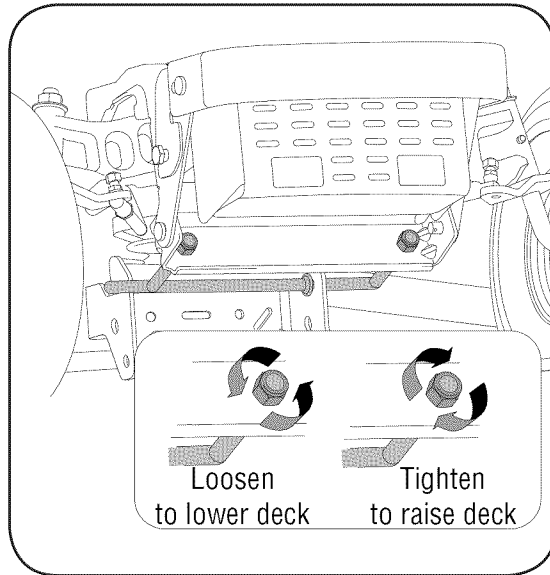

Figure 14
4. Locate the two lock nuts on the front side of the stabilizer bracket. See Figure 14. Tighten the lock nuts to raise the front of the deck; loosen the lock nuts to lower the front of the deck.